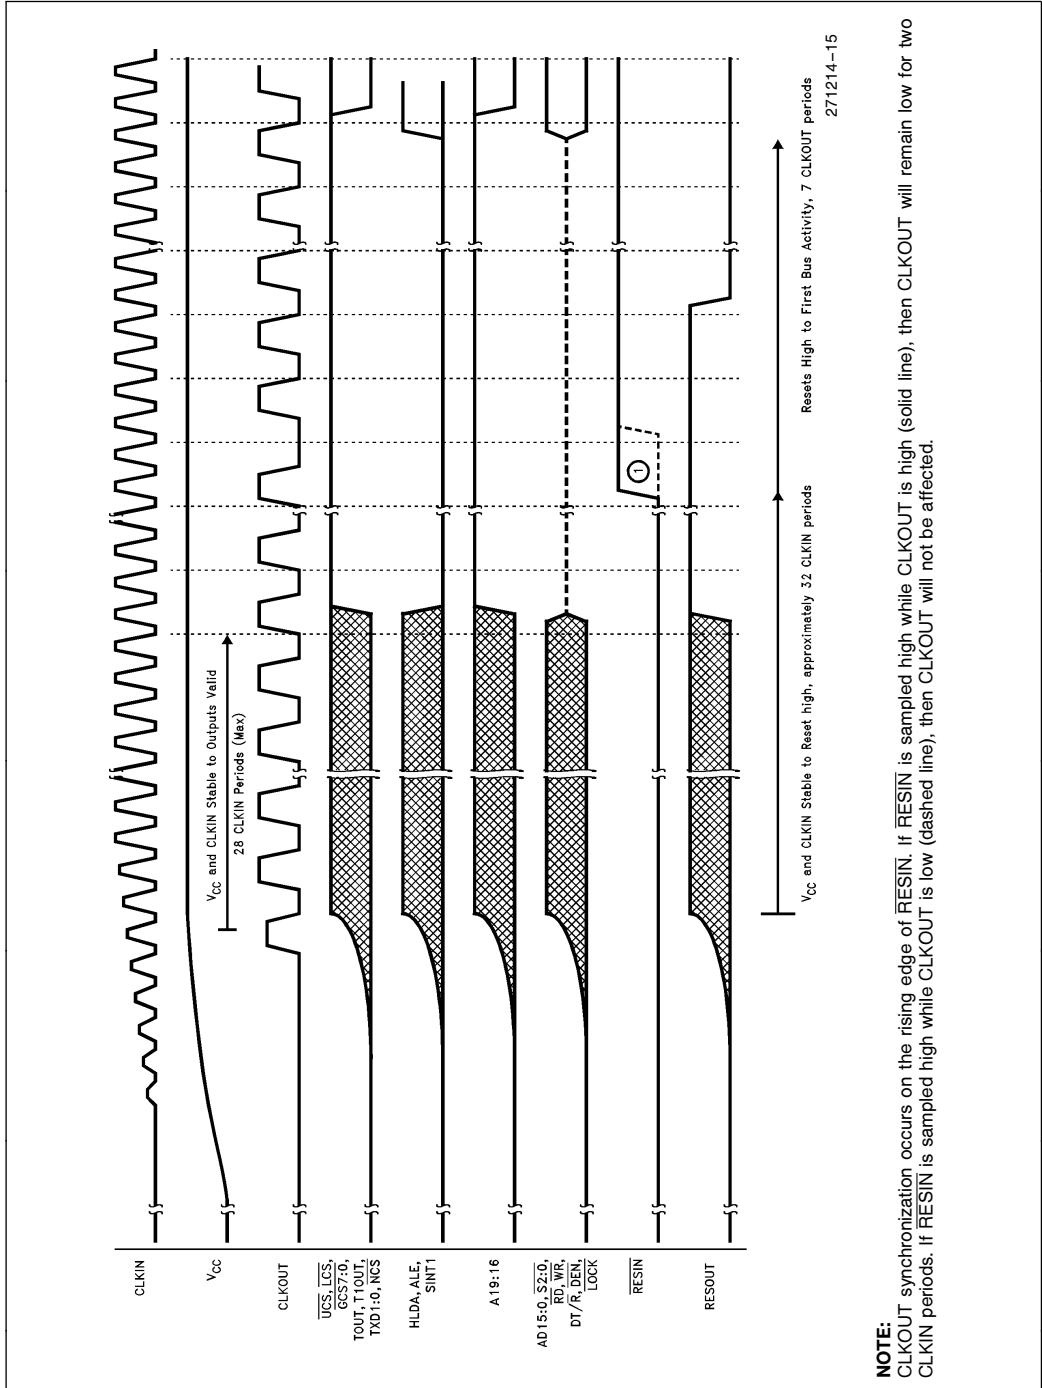

Figure 17
5. Specified for a 50 pF load, see Figure 17 for rise and fall times outside 50 pF.
6. See Figure 17 for rise and fall times.
Figure 17 shows the correct reset sequence when first applying power to the M80C186EB. An external clock connected to CLKIN must not exceed the V_{CC} threshold being applied to the M80C186EB. This is normally not a problem if the clock driver is supplied with the same V_{CC} that supplies the M80C186EB. When attaching a crystal to the device, $\overline{\text{RESIN}}$ must remain active until both V_{CC} and CLKOUT are stable (the length of time is application specific and depends on the startup characteristics of the crystal circuit). The $\overline{\text{RESIN}}$ pin is designed to operate correctly using an RC reset circuit, but the designer